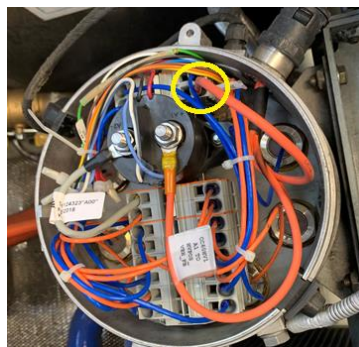

Figure 20: High Voltage Negative Auxiliary Heater Connection
76. Lightly pull on the orange high voltage cable circled below in figure 20 and connected to the terminal block to ensure proper cable securement.